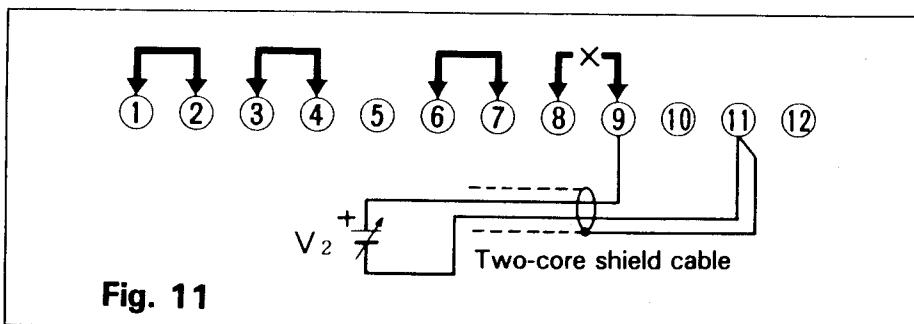

Fig. 11
- 2) Remove the short bar (8)- (9) and connect external voltage  $V_2$  across (9) and (11) as shown Fig. 11. Be very careful about the polarity.